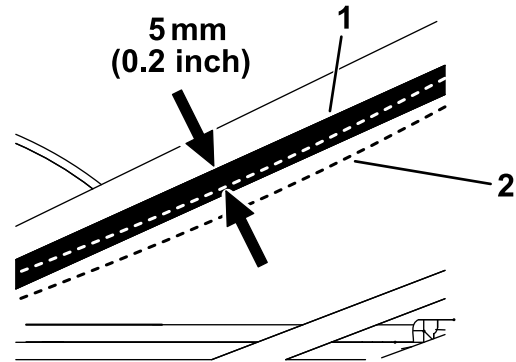

Figure 28
5. Using a single-barrel tension meter, push down on the belt to check the tension as follows (Figure 28):